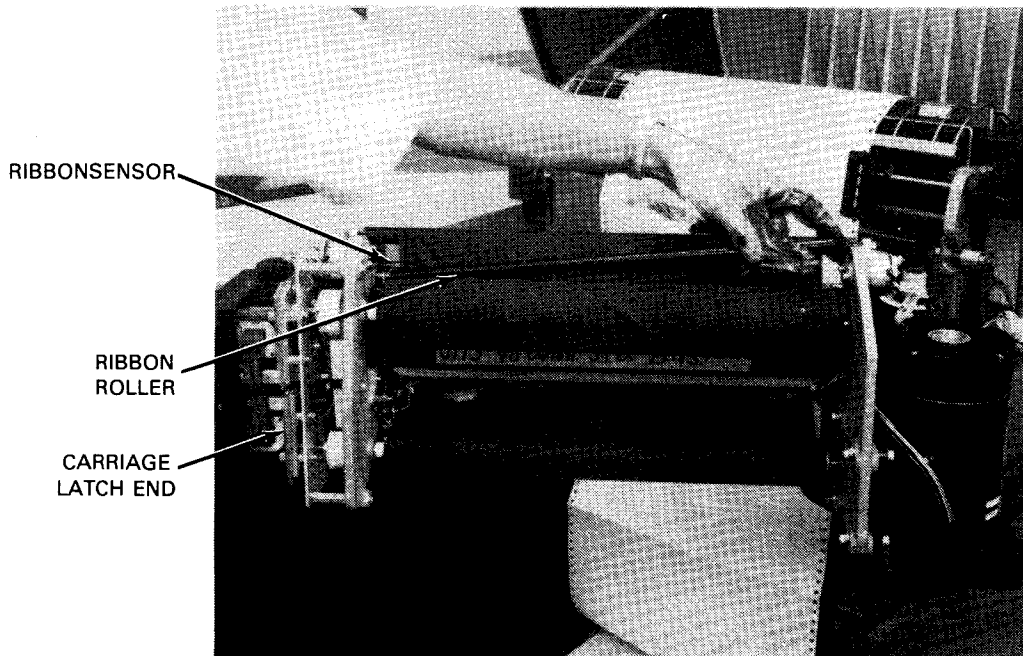

Figure 5—99. Removing the Print Roller
5. Hold the print ribbon spool with the left hand and push it toward the print carriage hinge end to release it. Repeat the procedure with the right hand for the lower ribbon spool (Figure 5—100). Swing the ribbon away from the print carriage and discard the ribbon and spools in a suitable container.